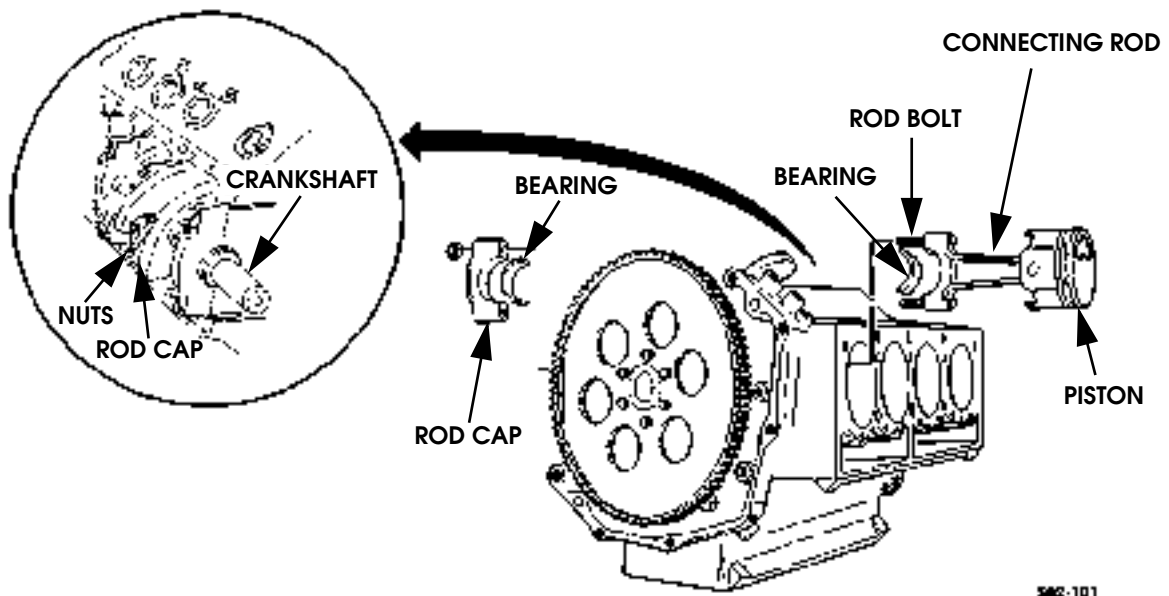

Figure 2-96: Piston and Connecting Rod Removal
4. Remove each piston - connecting rod assembly as follows (Figure 2-96):